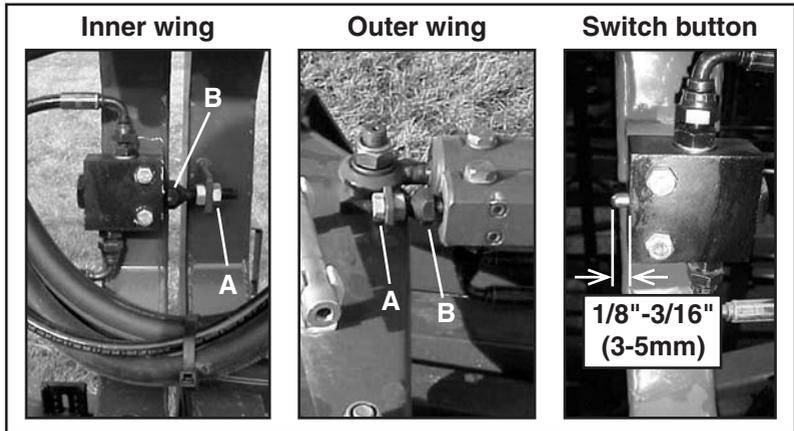

Fig. 30
If adjustment is needed, loosen jam nut (A)(Fig. 30) and adjust bolt (B)(Fig. 30) so it pushes the button on the switch 1/8" - 3/16" (3-5mm).